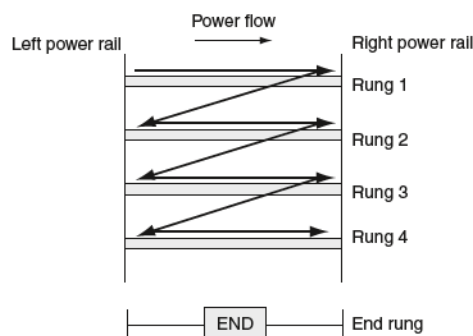

Figure .3: Scanning the ladder program
3. A ladder diagram is read from left to right and from top to bottom, Figure.3 showing the scanning motion employed by the PLC. The top rung is read from left to right. Then the second rung down is read from left to right and so on.